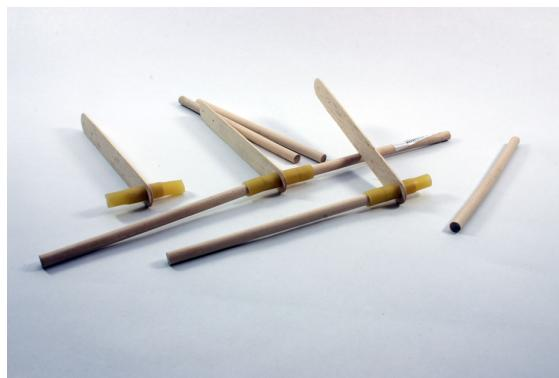

Figure 13-11 Attaching lower arms
8. Now slip the longer dowels into each side of the upper arm, making a T shape, as shown in Figure 13-11.